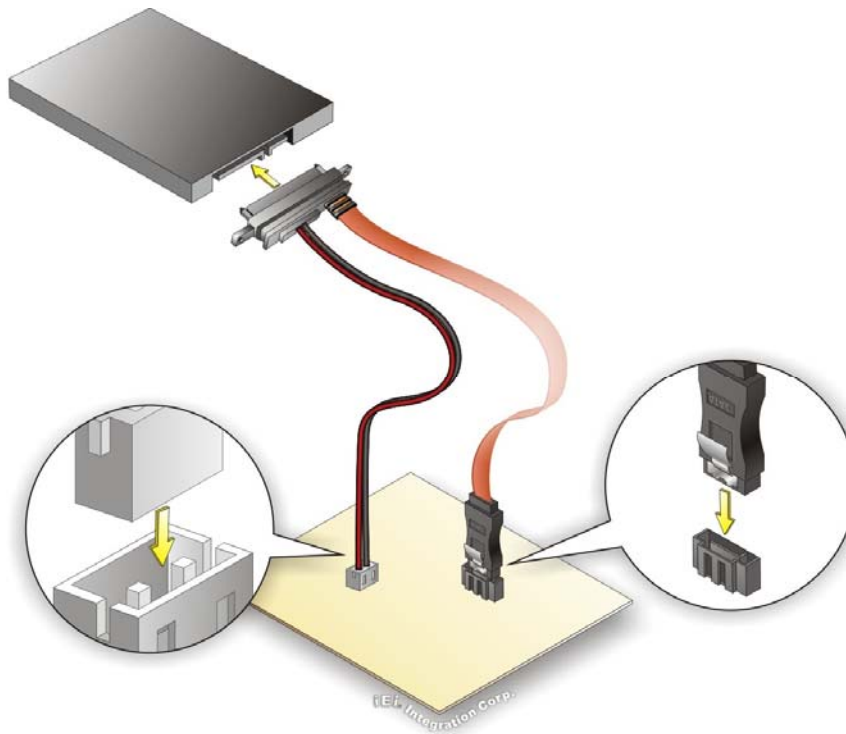

Figure 4-24: SATA Drive Cable Connection
Step 2: Insert the cable connectors. Insert the cable connectors into the on-board SATA drive connector and the SATA power connector. See **Figure 4-24**.
Step 3: **Connect the cable to the SATA disk.** Connect the connector on the other end of the cable to the connector at the back of the SATA drive. See **Figure 4-24**.